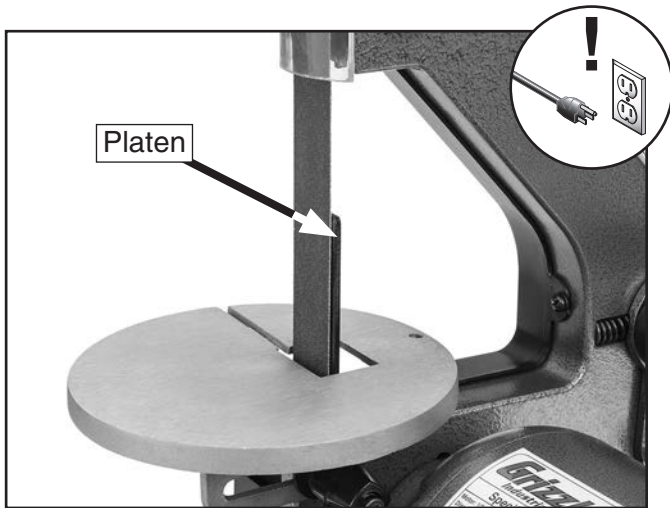

Figure 19. Location of platen.
2. Make sure platen is in place (see **Figure 19**) and table-to-platen angle is set for operation (refer to **Adjusting Platen & Belt Sander Table** on **Page 21**).